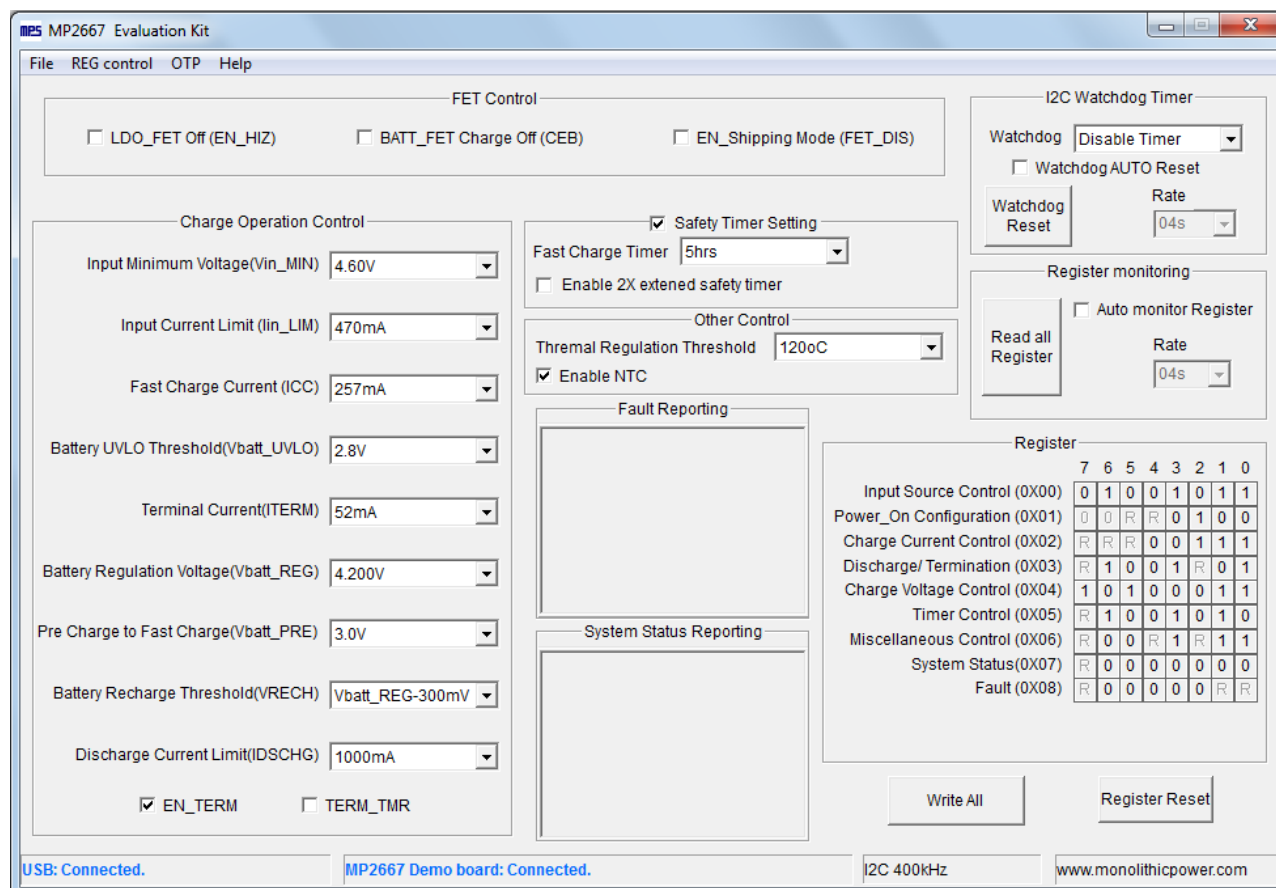

Figure 7: USB and MP2667 Demo Board Show as Connected
- If the connection is successful, both the USB and MP2667 Demo Board statuses will appear as “Connected” (see Figure 7).
2. Click the “Read All Registers” button to read the I²C register values. The default values are displayed (see Figure 7).